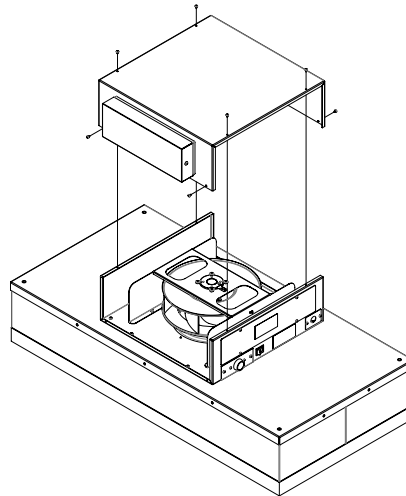

Figure 7: Reinstalling the Blower Cover
Step 3. Re-install the cover using the eight screws to secure the cover. (See Figure 7.)
Step 5. Re-install the cover using the eight screws to secure the cover, in the desired exhaust direction. (See Figure 7.)